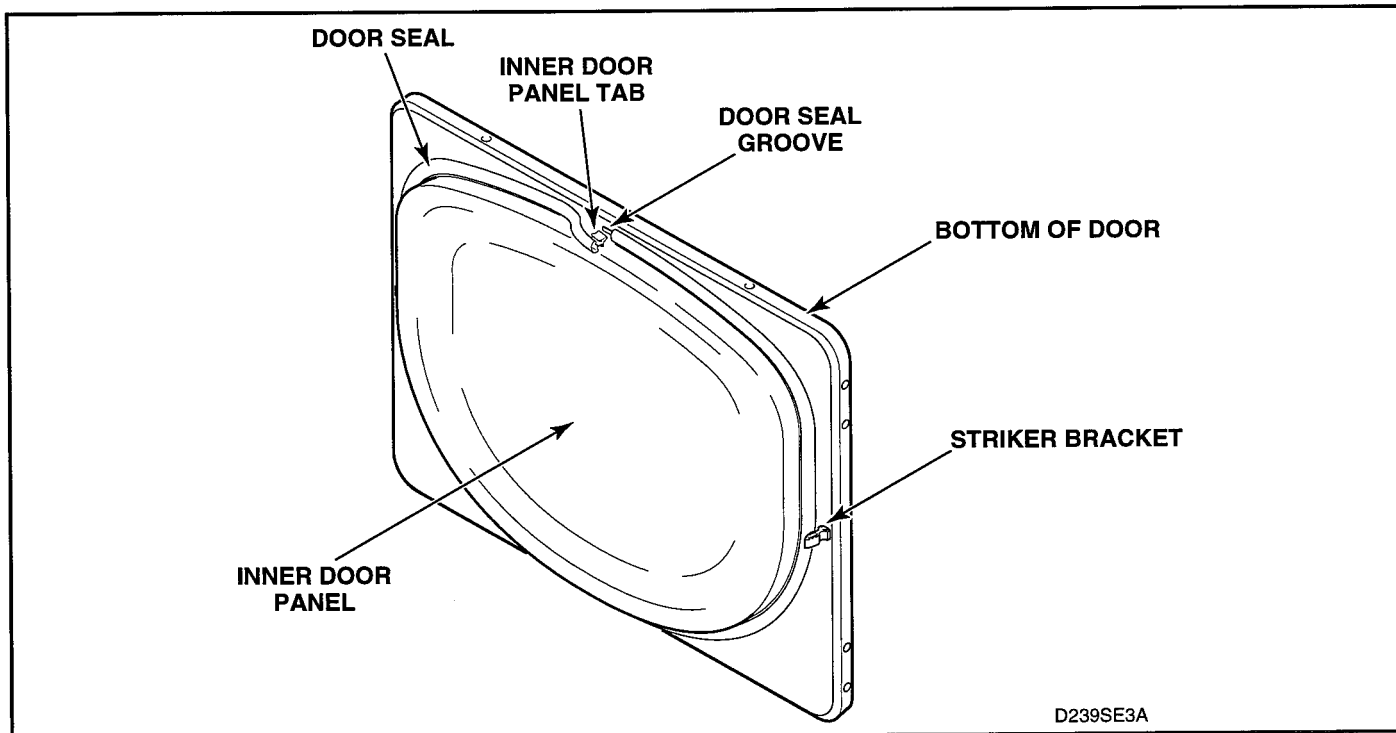

Figure 5-7
- Grasp either end of door seal at bottom of door and remove seal from tabs on inner door panel by gently pulling on the seal. See figure 5-7.
NOTE: When replacing seal, be sure seal is not stretched or distorted. The groove in the seal should be installed on each tab of the inner door panel, as in figure 5-7. The split in the seal should be at the bottom of the door.
15. DOOR SEAL (Figure 5-7)